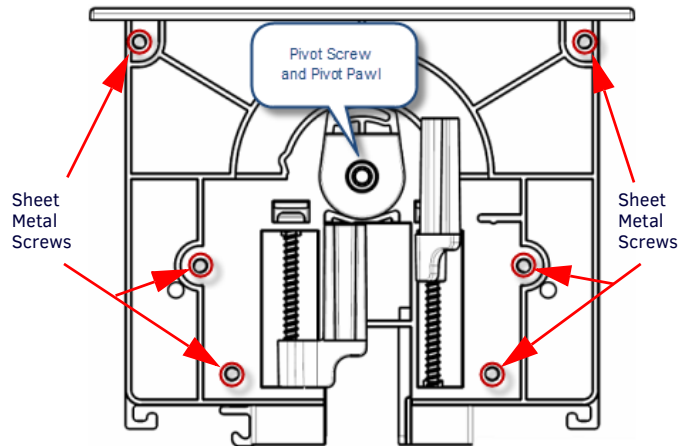

FIG. 5 HYDRAPORT BASE ASSEMBLY (SHOWN MOUNTED) - MOUNTING/PIVOT SCREW LOCATIONS
Remove the End Cap as well as existing modules (as necessary, depending on how you want the modules arranged) from one end of the HydraPort base assembly (FIG. 5).
3. Secure the End Cap with the six (black) sheet metal screws (removed in Step 2 - 2; see FIG. 5).
4. Replace the (silver) pivot screw and pivot pawl assembly (removed in Step 2 - 1, see FIG. 5) in the center of the End Cap.